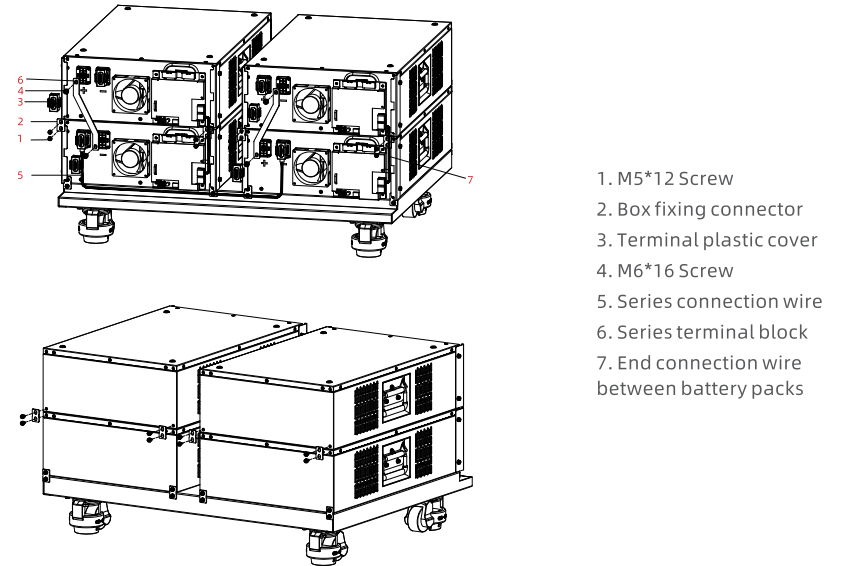

Figure-10 Installation diagram of the battery module (picture is for reference only)
- 4) Place the battery case in the corresponding position of the battery holder according to Figure-10, and fix the battery case to the battery holder with the matching M6 screw.